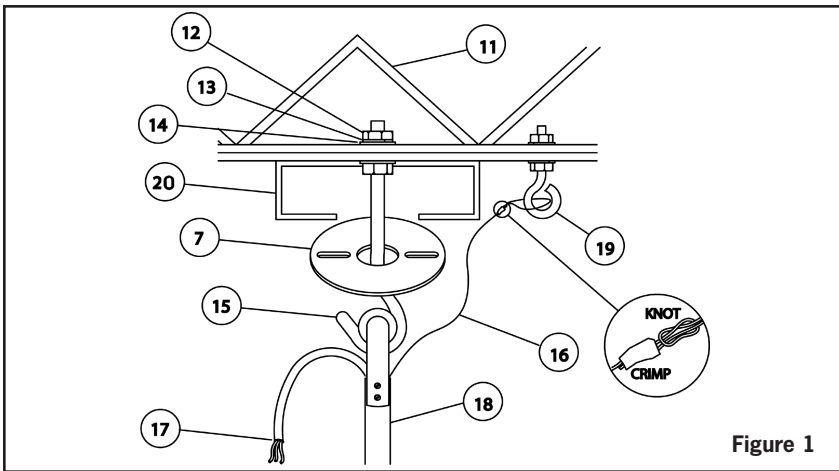

Figure 1
11. To reduce the risk of personal injury install the safety cable (per Fig. 1).
1. Using Machine Threaded Hooks for Steel Frame Ceiling (Fig. 1)